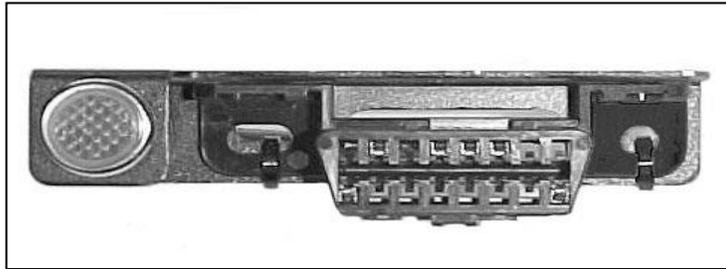

FIGURE 6.1 DLC Connector & Check Engine Light
The wires in this group consist of the diagnostic link connector (DLC) (**SEE FIGURE 6.1**), the check engine light (pre-mounted into a mounting bracket), fuel pump relay, emissions devices (optional) and 6 other wires.
- D. DLC** - The Data Link Connector (**DLC**) **Figure 6.1** is used to communicate with the PCM. The Powertrain On Board Diagnostic (**OBD**) System Check is an organized approach to identifying a problem created by an electronic powertrain control system malfunction. The Powertrain OBD System Check is the starting point for any drivability concern diagnosis. The Powertrain OBD System Check directs the installer to the next logical step in diagnosing a drivability concern. Understanding and using the Powertrain OBD System Check correctly will reduce the diagnostic time and prevent the replacement of good parts. Mount the DLC connector using the bracket that the light is mounted in allowing access to the front of the connector allowing you to see the light while driving. **See Figure 6.1**